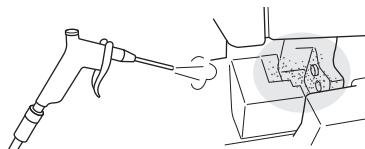

Fig. 34
(2) Clean away the iron filings attached around the cutter installation area (Fig. 34)